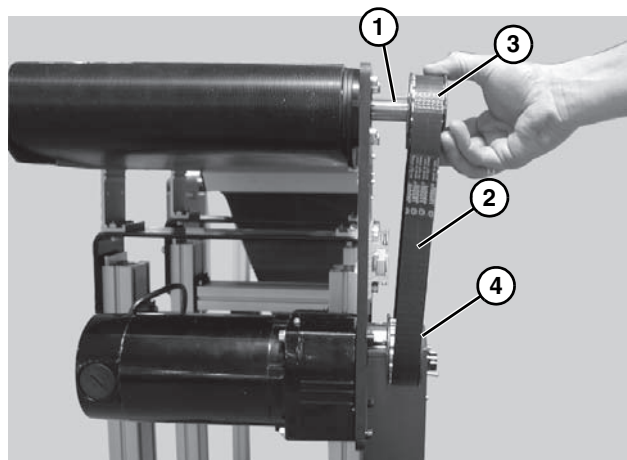

Figure 6
5. Install key (**Figure 6, item 1**).
6. Wrap timing belt (**Figure 6, item 2**) around driven pulley (**Figure 6, item 3**) and drive pulley (**Figure 6, item 4**). Install driven pulley onto conveyor shaft.